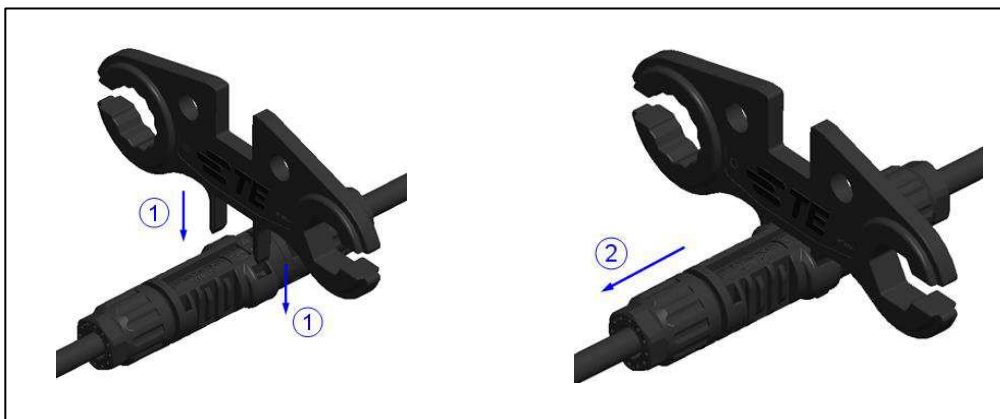

Figure 13
1. The locking mechanism is opened by depressing the latches with hand application tool (**1971903-1**) as shown in **Figure 13**.